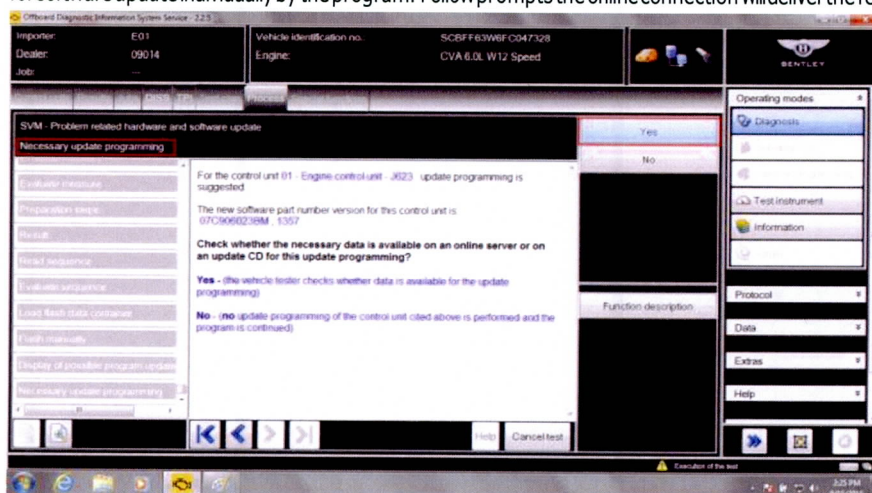

Figure 5
14. At *Necessary update programming* screen select **Yes** to update 01 – **Engine control unit – J623 control unit** (see Figure 5)
18. At Necessary update programming screen select Yes to update **11 - Engine control unit 2 - J624** (see Figure 5)
22. At Necessary update programming screen select Yes to update 02 - **Automatic gearbox control unit - J217** (see Figure 5)